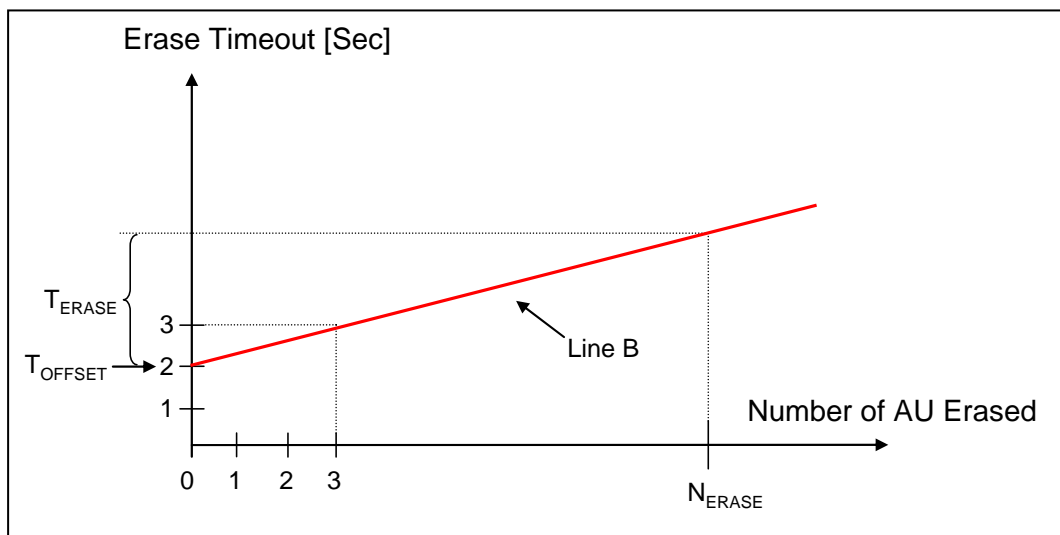

Figure 4-11: Example Erase Characteristics (Case 2 $T_{OFFSET}=2$)
This 2-bit field indicates the T_{OFFSET} and one of four values can be selected. The erase offset adjusts the line by moving in parallel on the upper side. Refer to Figure 4-11 and Equation (6) in 4.14. This field is meaningless if ERASE_SIZE and ERASE_TIMEOUT fields are set to 0.
The line B illustrated in Figure 4-11 shows another example of erase characteristics. The red line indicates the erase timeout value that the host should use. Since the time-out is bigger than 1 second, the red line and line B are equivalent.